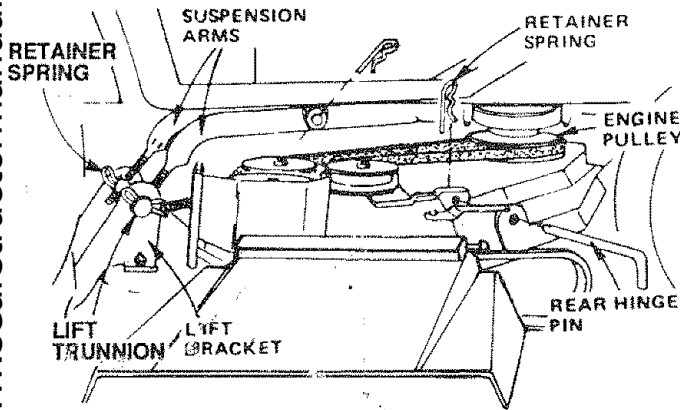
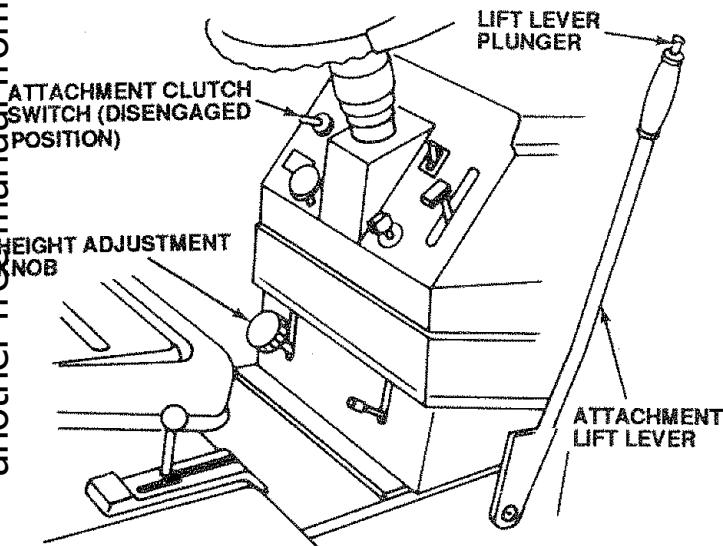
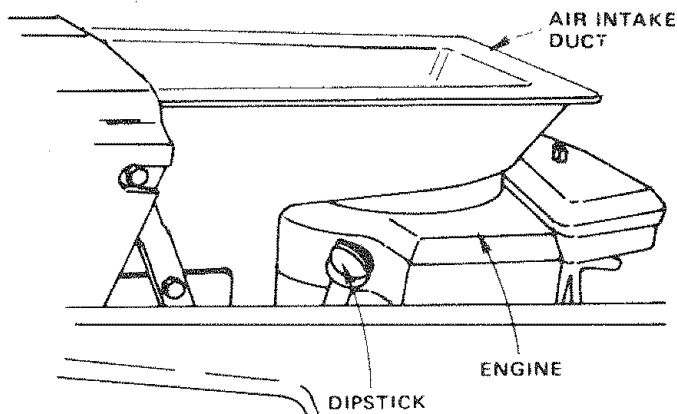

FIGURE 8
FIGURE 9
FIGURE 12
- Raise attachment lift lever (Fig. 9) to its highest position.
- Install rear hinge pin through mower lift brackets and parallel link (Fig. 8). Secure with retainers spring.
- Move attachment lift lever (Fig. 9) forward to lower suspension arms. Remove retainers springs from lift trunnions (Fig. 8).
- Slide trunnions through upper lift bracket holes and secure with retainers springs (Fig. 8).
- Pull L.H. idler pulley (Fig. 12) toward the right hand side of the tractor and roll belt over engine pulley (Fig. 8).
- Use attachment lift lever (Fig 9) to raise mower.